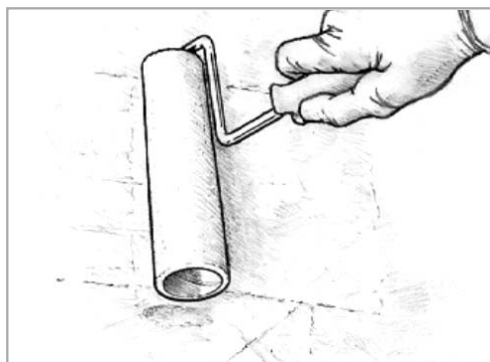
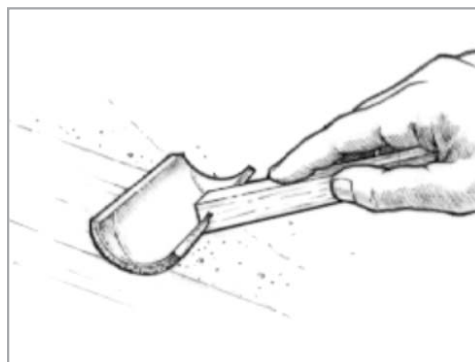

Figure 7-3 Roll lightly and randomly over a small area. Spread the epoxy into a thin even film.
Figure 7-4 Tip off the coating by dragging a foam roller brush lightly over the fresh epoxy.
3. Apply a second coat of 105/207 using the roller (Figure 7-3) and tip off the surface with a foam brush. Drag the brush across the surface of the fresh epoxy in light overlapping strokes in the direction of the wood grain (Figure 7-4). Level out the coating as much as possible. *NOTE: Apply the epoxy in thin coats. The thinner the film, the easier it is to keep it even and prevent runs and sags.*